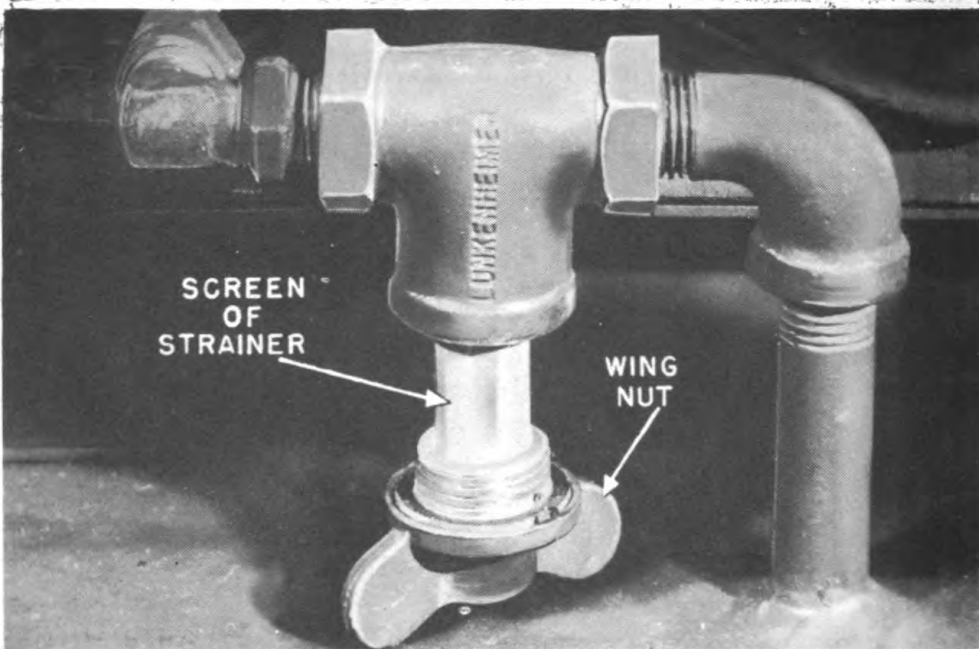

Fig 19. Wing nut unscrewed and gasoline strainer partly withdrawn from line.
a. Check gasoline and water strainers. Remove gasoline and water strainers and wash them with dry cleaning solvent. The gasoline strainer is located on gasoline line just above tank, and water strainer is similarly located on water line. Each is removed easily by turning the wing nut with the hand. One strainer, loosened and withdrawn from piping, is shown in figure 19.